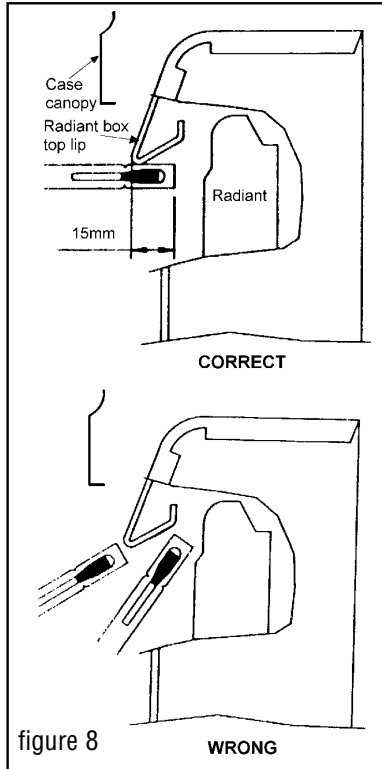

figure 8
5.3.4 Place the smoke match tube horizontally under the top lip of the radiant box and at least 50mm away from the sides of the radiant box. See figure 8.